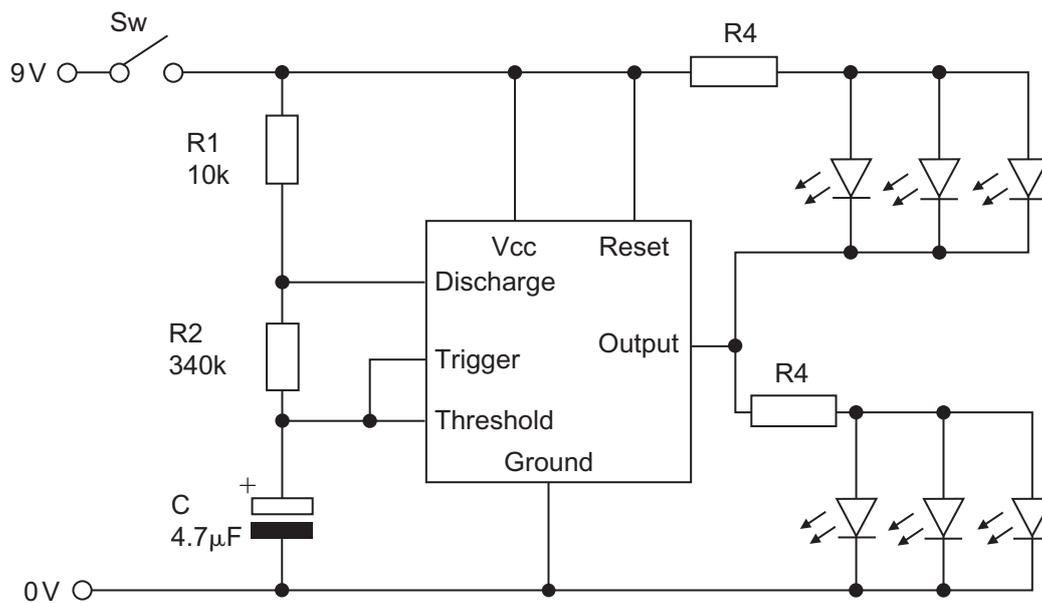

Fig. 9(b)
- (i) Calculate the output frequency of the circuit shown in **Fig. 9(b)** given that the time period $T = C (R1+2R2) / 1.44$. [2]
- (ii) Using the value from answer **9(b)(i)** above, sketch and label the output waveform for the circuit in **Fig. 9(b)**, indicating the **mark**, **space** and **period** on the waveform. [4]
- (iii) Explain, in detail, the operation of the warning light circuit shown in **Fig. 9(b)**. [4]